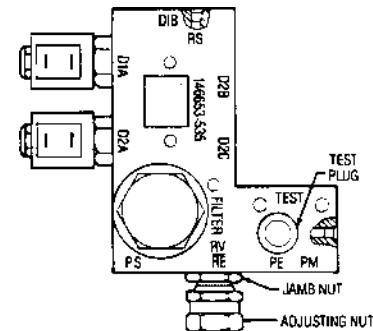

Figure 5.1a - Hydraulic Pump Relief Valve (04 Tables)
1. Remove the plug from the pressure test port located on the base manifold block (see Figure 5-1a).